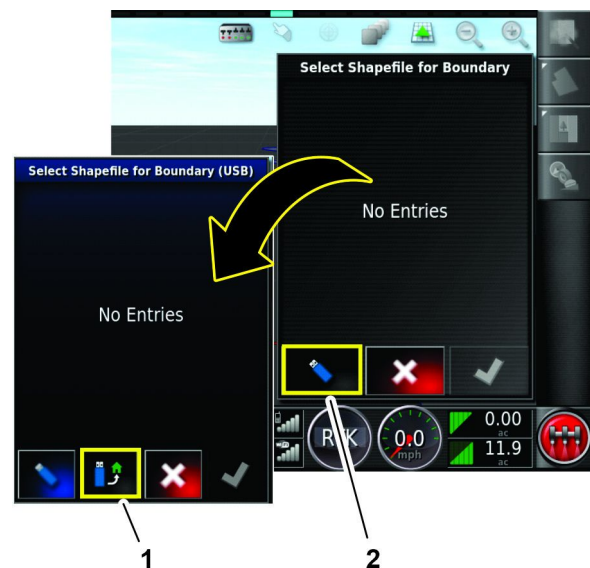

Figure 74
5. In the select shapefile for boundary dialog box, press the SWITCH TO USB DRIVE icon (Figure 74).
- In the select shapefile for boundary (USB) dialog box, press the IMPORT FROM USB DRIVE icon (Figure 74).